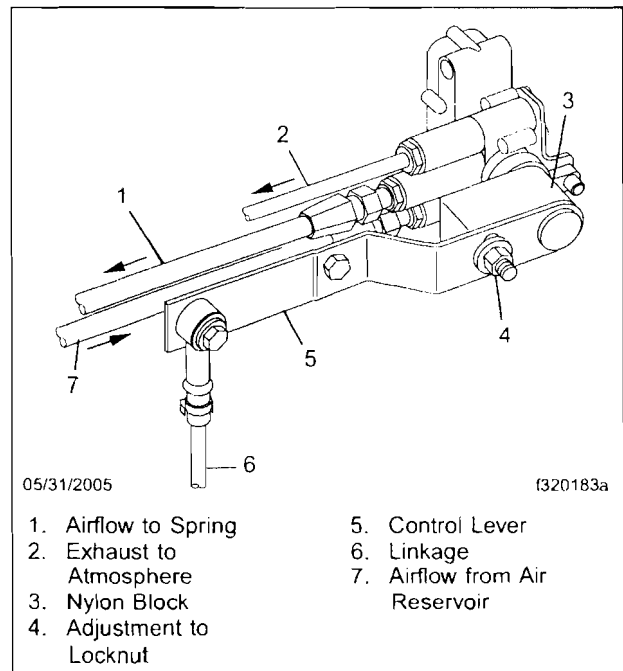

Fig. 8, Height Control Valve
- 15.3 Remove the bolt that secures the height control valve linkage to the control lever of the valve. See Fig. 8.
- 15.6 To adjust the valve, loosen the adjustment locknut on the height control valve lever arm. See Fig. 8.